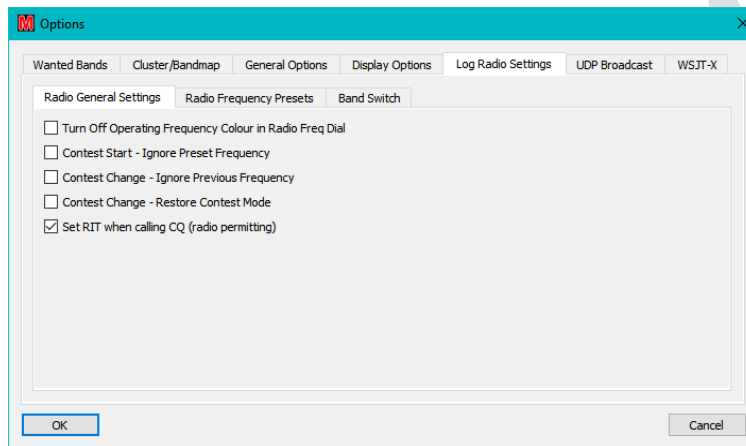

Figure 88 – Radio General Settings
- In ‘**Radio General Settings**’ (Figure 88) there are three options⁷⁷ to control the usage of band presets and per contest frequencies/modes: